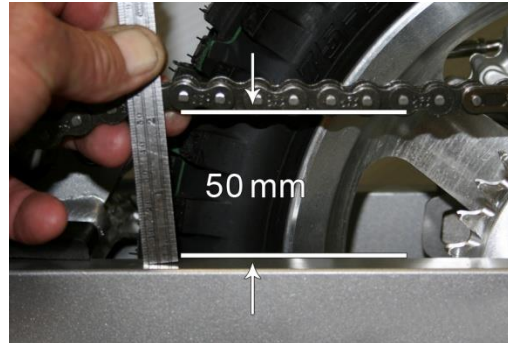

Figure 2
2. A properly adjusted chain will have 50mm (2") free movement behind the chain block with no load on the bike. (figure 2)